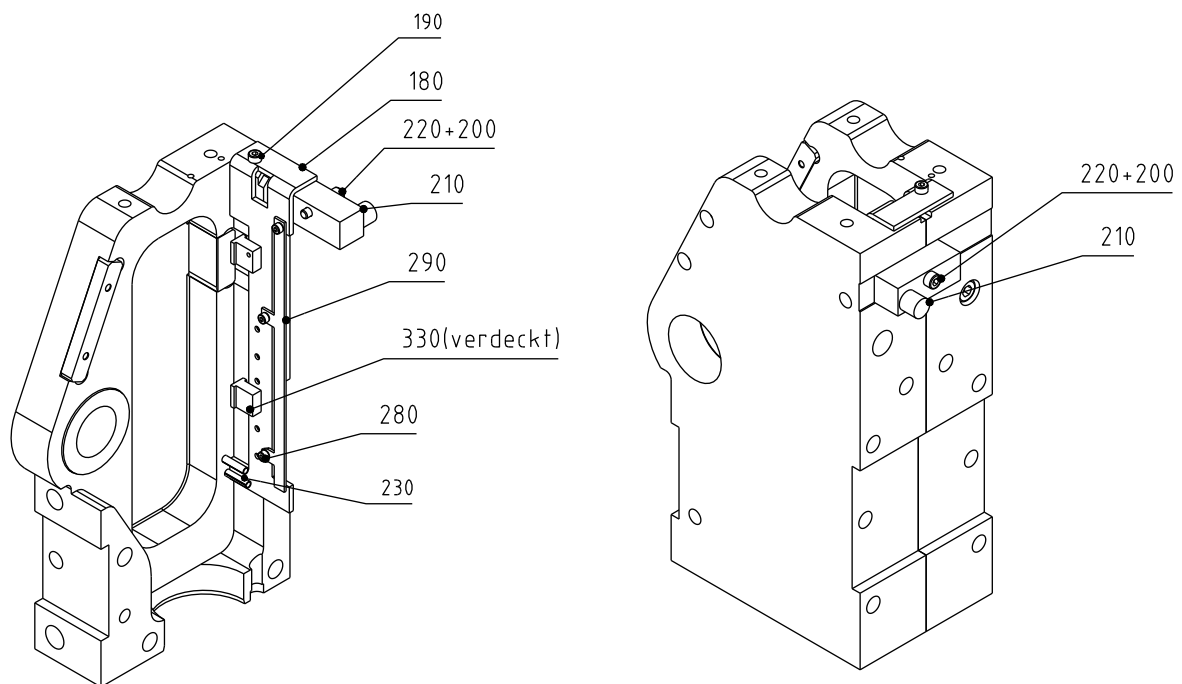

Fig. 2: Exchange of limit switches
- Connect electro-coupling corresponding to the electrical design (see circuit diagram fig. 3) onto the connection plug " M12" (fig. 2) and tighten the screws.